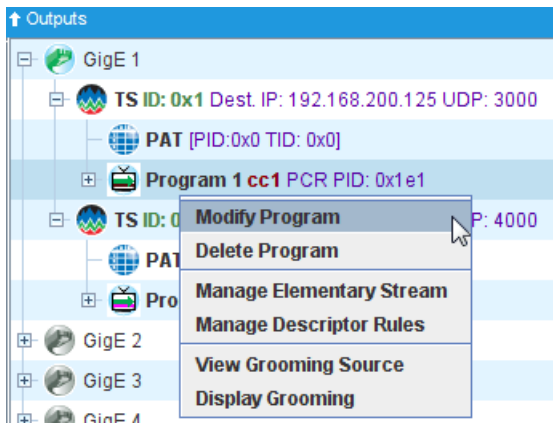

Figure 135. Program Pop-Up menu - Modify Program
2. Right-click on the program and choose **Modify Program** from the popup menu. (Figure 135).